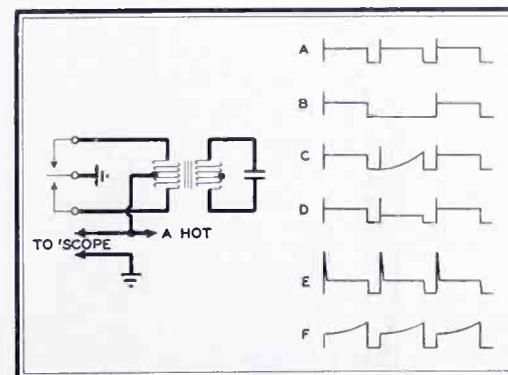

FIG. 5. CONNECTIONS FOR CHECKING CURRENT WAVE, AND TYPICAL TYPES OF WAVE FORMS
**TEST NO. 5:** Other checks can be made by connecting the oscilloscope as in Fig. 5, to show the current wave. This will be similar, under normal conditions, to the wave shown in Fig. 5A. The successive pulses are set up as the vibrator contacts feed each side of the trans-